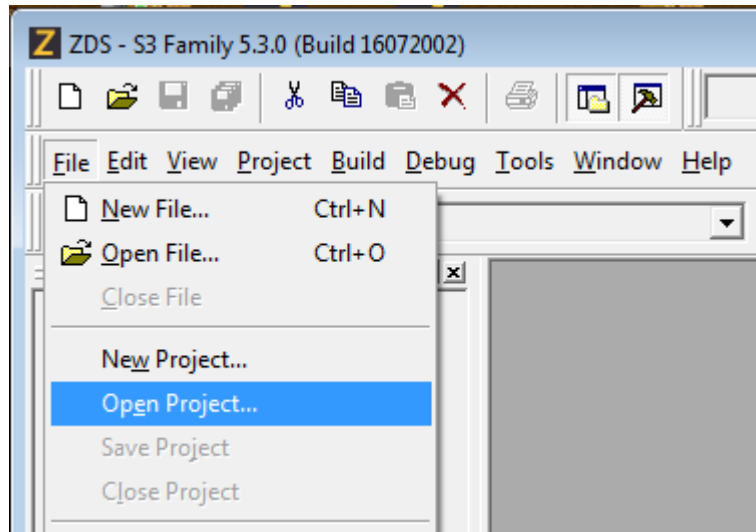

Figure 7. The Open Project Selection in the File Menu
2. From the **File** menu in ZDSII, select **Open Project** as indicated in Figure 7, and navigate to the following filepath: